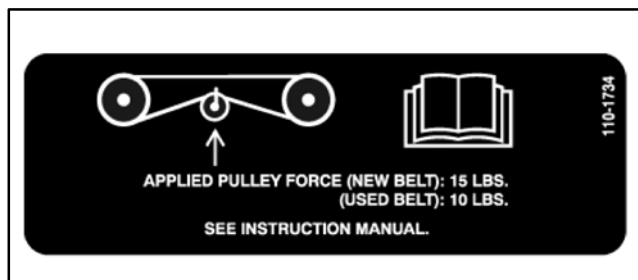

Figure 46
H. To tension drive belt, make sure idler pulley lock nut is loose. Lift up on idler plate tab with 15 lbs of force for a new belt (10 lbs of force for a used belt) and tighten pulley lock nut. Refer to decal on brush plate (Fig. 46).